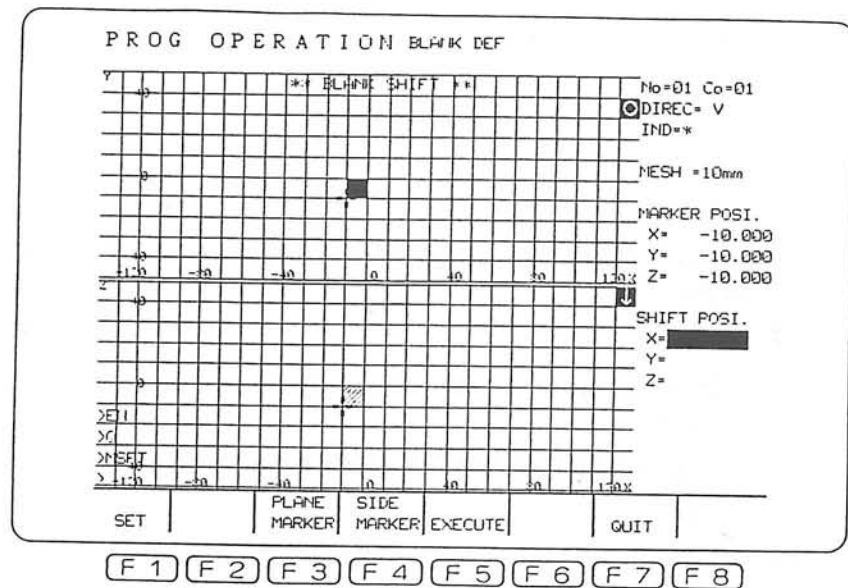

Fig. 4-26 Blank Shift Display
When the function key [F4] (BLANK SHIFT) is pressed, the on-screen display will be as shown in Fig. 4-26.
- ① The reference point (zero point) is moved to the pattern by using the function key [F3] (PLANE MARKER) for the $\left(\begin{smallmatrix} \blacksquare \\ \blacksquare \end{smallmatrix}\right)$ cursor, and the function key [F4] (SIDE MARKER) for the $\left(\begin{smallmatrix} \blacksquare \\ \blacksquare \end{smallmatrix}\right)$ cursor.
- ② The setting for the position to which the zero point is moved is made at the 'X =, Y =, Z =' display, located at the lower right portion of the screen shown in Fig. 4-26. To make the setting, move the cursor to the position where setting is desired, press the function key [F1] (SET), enter the numeric value, and press the WRITE key.
- ③ When the function key [F5] (EXECUTE) shown in Fig. 4-26 is pressed, the $\left(\begin{smallmatrix} \blacksquare \\ \blacksquare \end{smallmatrix}\right)$ cursor will move to the X, Y, Z position designated in item 2) above.